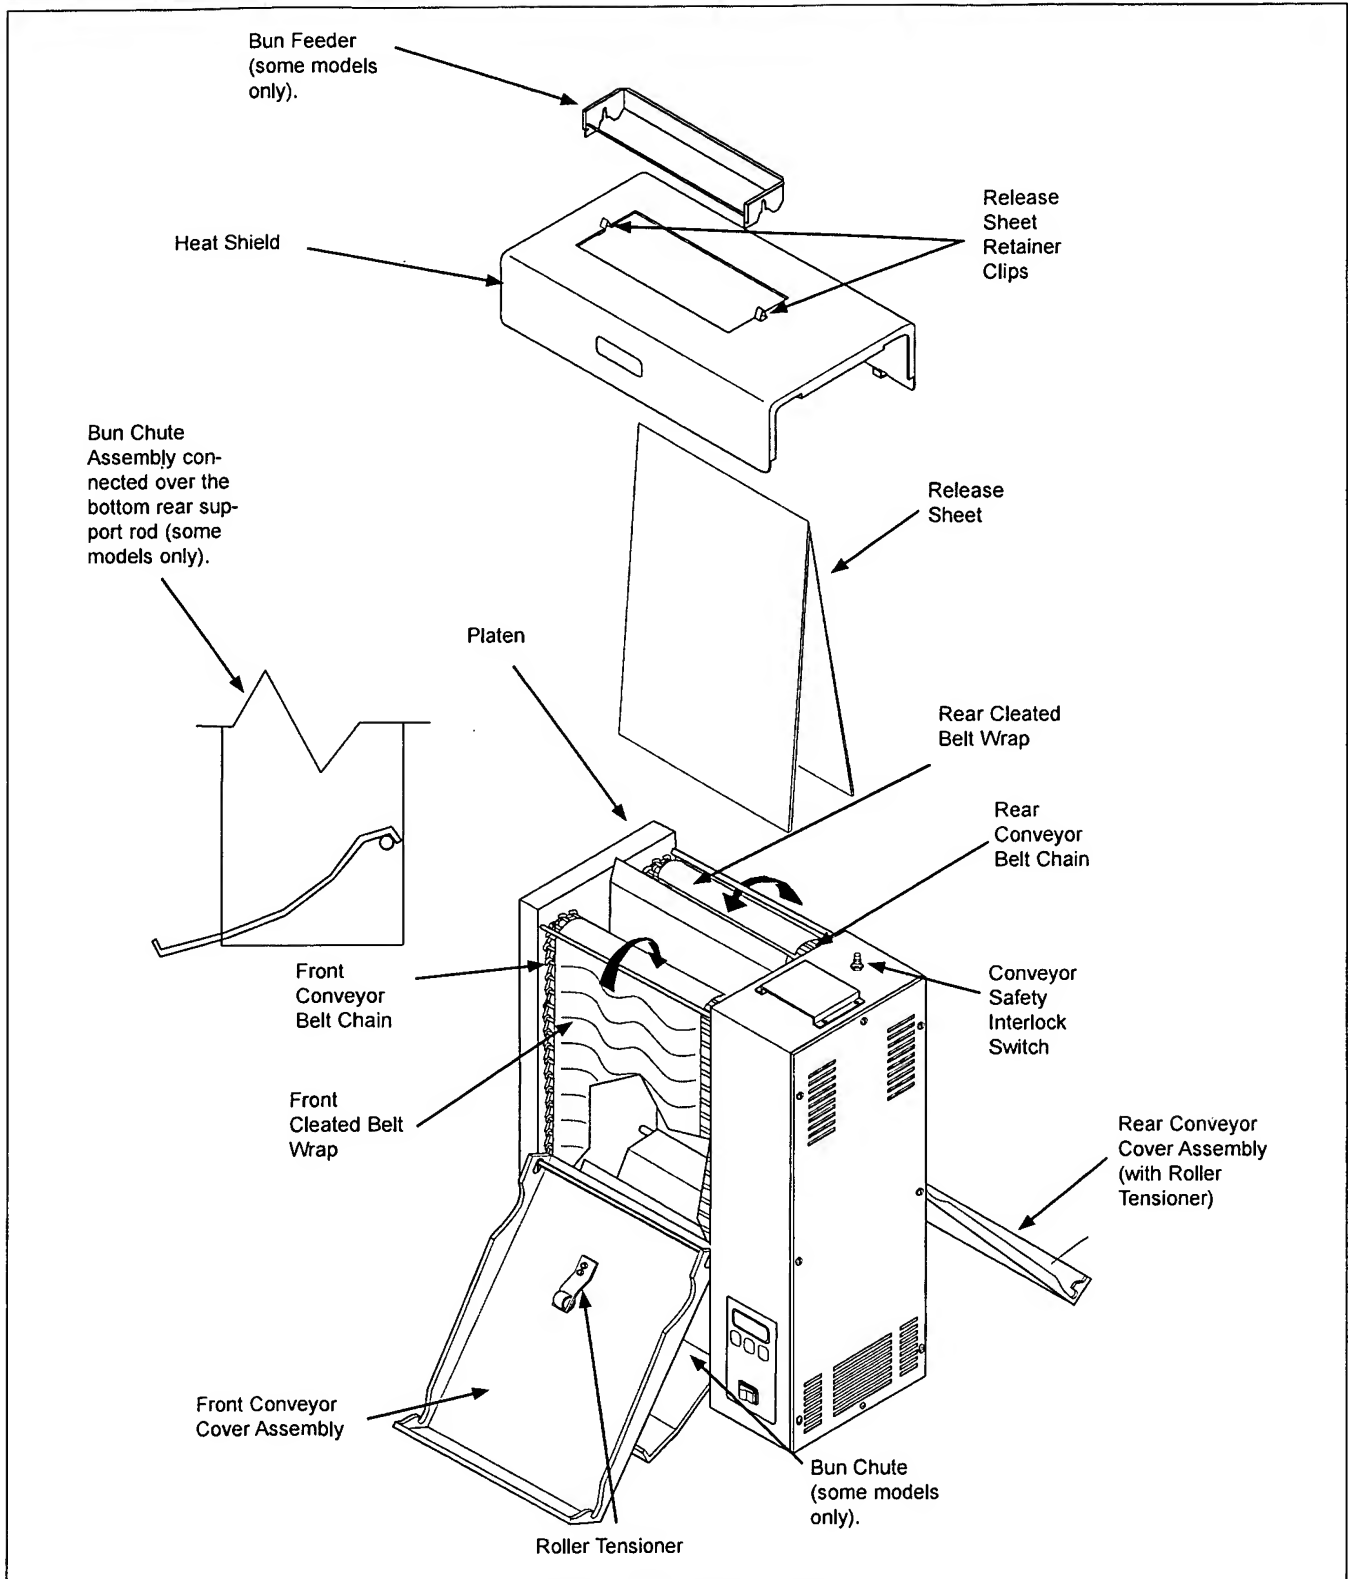

Figure 1. VCT-2000 Toaster
- Bun Chute (Figure 1) some models only.
- Bun Feeder (Figure 1) some models only.
- 2 Release Sheets (Figure 1).
NOTE: The factory has pre-installed a Release Sheet over the Platen (Figure 1). Verify that it is properly in place before proceeding.
1. Remove Bun Chute and Bun Feeder from the box and install (Figure 1).
IMPORTANT: Make sure heat shield assembly is activating the Conveyor Safety Interlock Switch (see Figure 1). The conveyors will not rotate unless the Heat Shield is in place and Conveyor Safety Interlock Switch is activated.